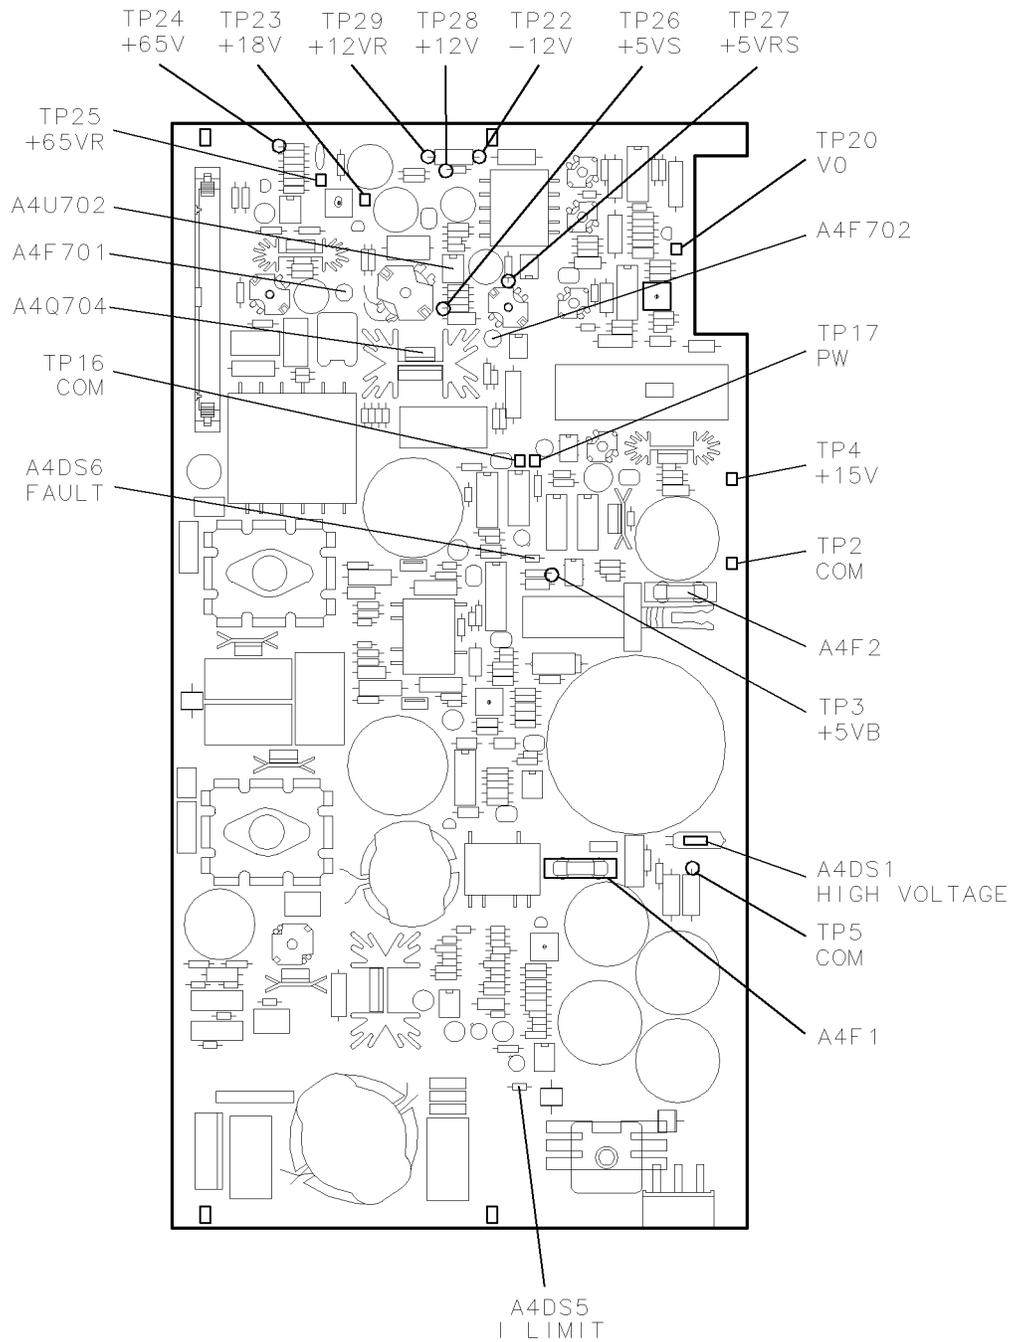
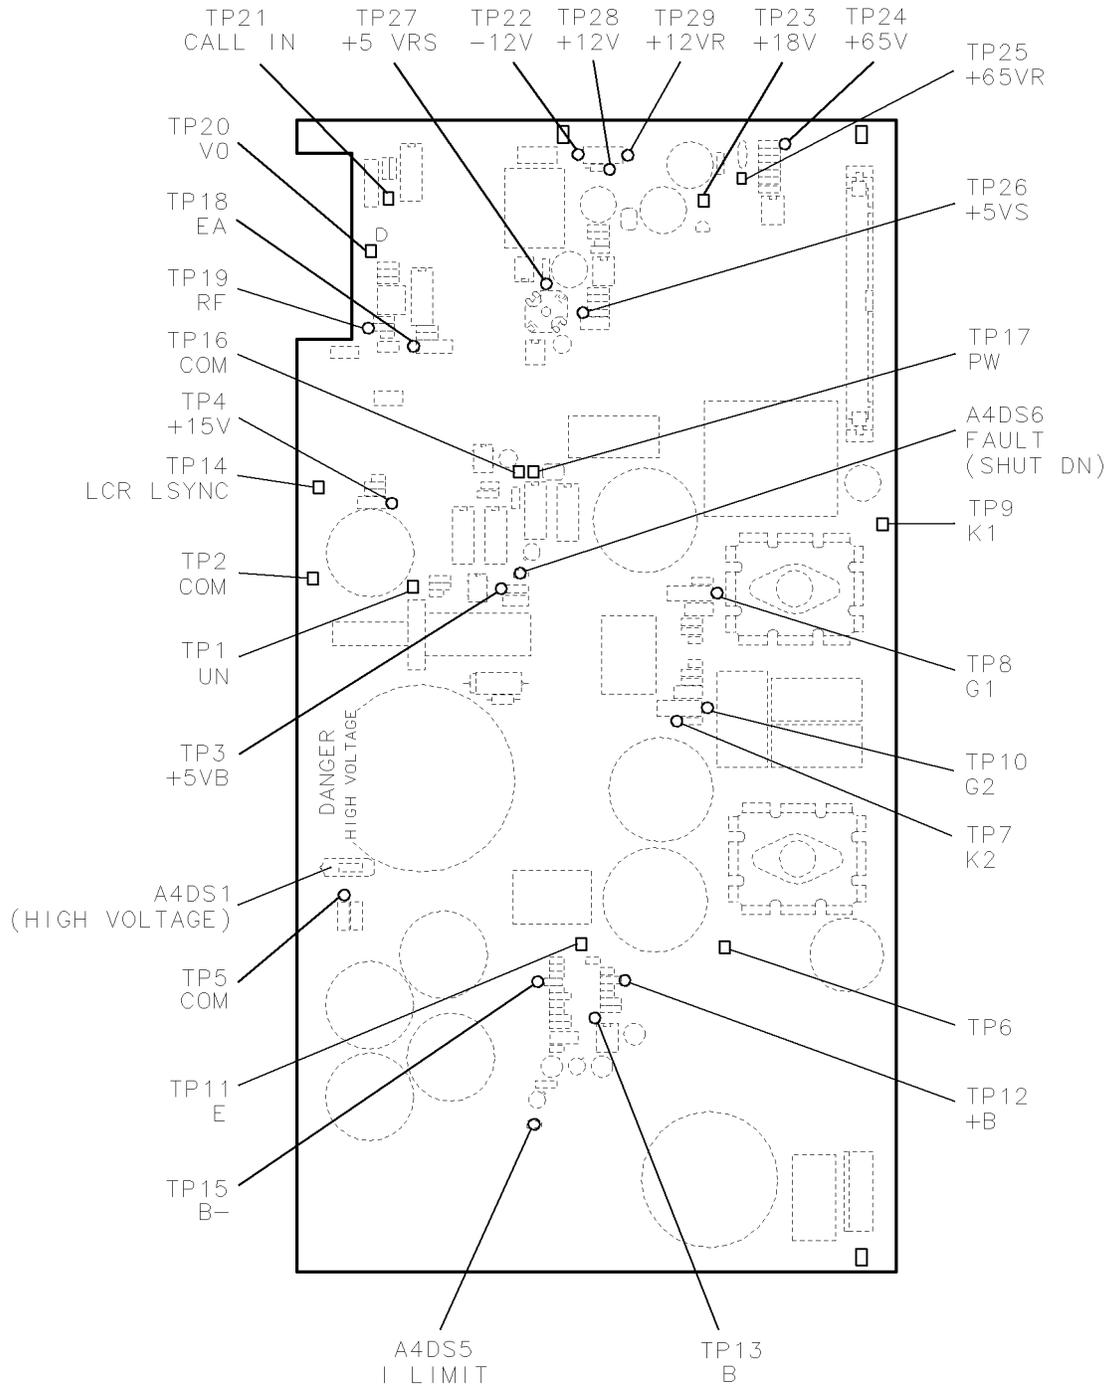

Figure 4-4. A4 Power Supply Indicators and Fuses (Front)
Figure 4-5. A4 Power Supply Indicators and Fuses (Back)
Troubleshooting the power supply involves inspection of fault indicators on the A4 power supply. Several fuses are also accessed. See Figure 4-4 and Figure 4-5 for the location of these components.
- The front panel LINE indicator is not on. Modules inserted into the display do not receive power. (There is no voltage present at A4TP3 +5 VB. Refer to Figure 4-4 and Figure 4-5.) Go to “State 1.”
Observe the A4DS1 HV neon indicator light (see Figure 4-4 and Figure 4-5):
- If A4DS1 HV is on, and *all* other fault indicator lights are off, check the voltage between A4TP3 +5 VB and A4TP2 COM for 5 Vac ± 0.25 V. (Refer to Figure 4-4.) If the voltage at A4TP3 is good, continue with 2c.
- b. If the voltage at A4TP3 is bad, then turn the Line-Isolated Variable Mains Transformer (VARIAC) off. Wait one minute after A4DS1 HV goes out. Remove and check the A4F2 Bias Fuse (see Figure 4-4).
To determine if this is the correct state to troubleshoot, remove the instrument cover. Refer to Figure 4-4 and Figure 4-5 for the location of the test points and indicators discussed below.
- The A4 power supply output voltage to the fan is protected by the A4F702 +12 V fuse (see Figure 4-4). If A4F702 is blown (open), the A4DS6 FAULT indicator will light.
To determine if this is the correct state to troubleshoot, remove the instrument cover. Refer to Figure 4-4 and Figure 4-5 for the location of test point and indicators discussed below.